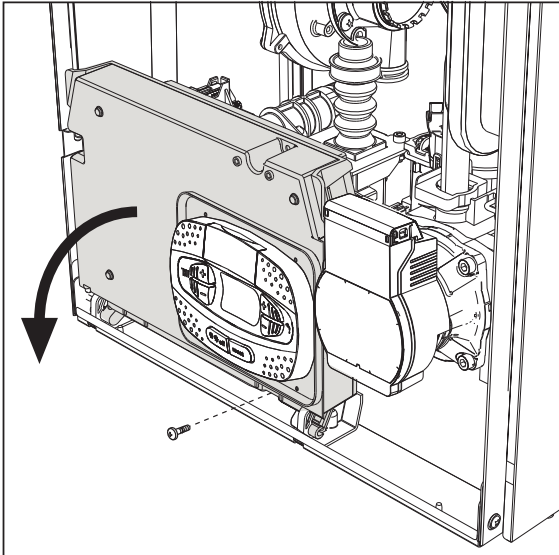
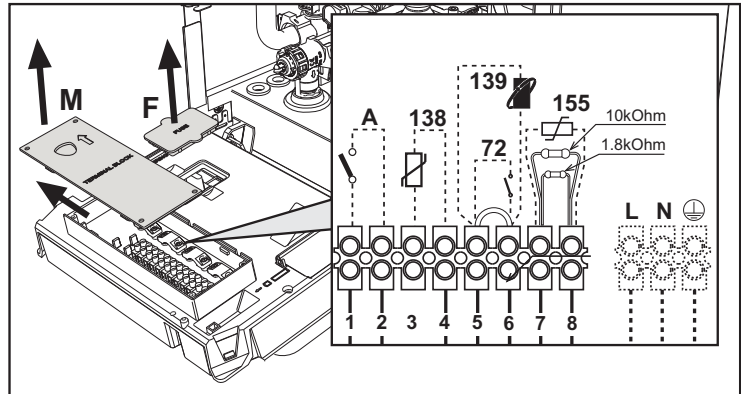

fig. 20
fig. 21
Remove the front panel ( \*\*\* 'Opening the front panel' on page 183 \*\*\* ) to access the terminal block (M) and fuse (F) by proceeding as follows (fig. 20 and fig. 21). **The terminals indicated in fig. 21 must be with voltage-free contacts (not 230V).** The arrangement of the terminals for the various connections is also given in the wiring diagram in fig. 58.
## ON/OFF (A fig. 21) configuration